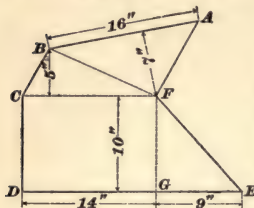

FIG. 37.
EXAMPLE.—It is required to find the area of the polygon $ABCDEF$, Fig. 37.
2. Find the area of the polygon $ABCDEF$ (see Fig. 37), supposing each of the given dimensions to be increased to $1\frac{1}{2}$ times the length given in the figure. Ans. 621 sq. in.